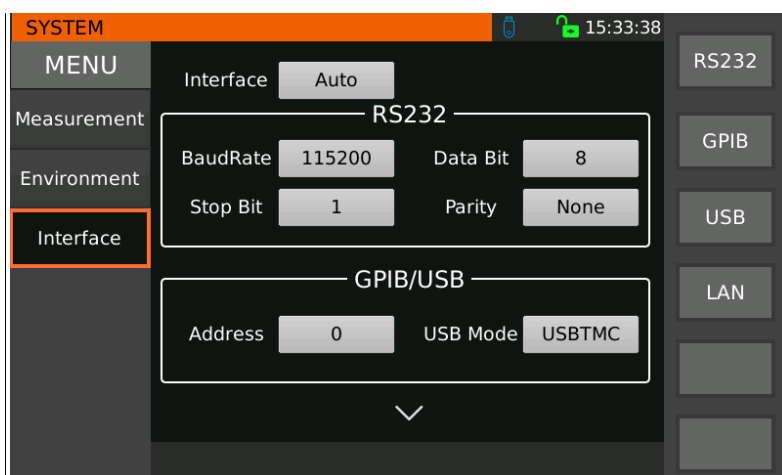
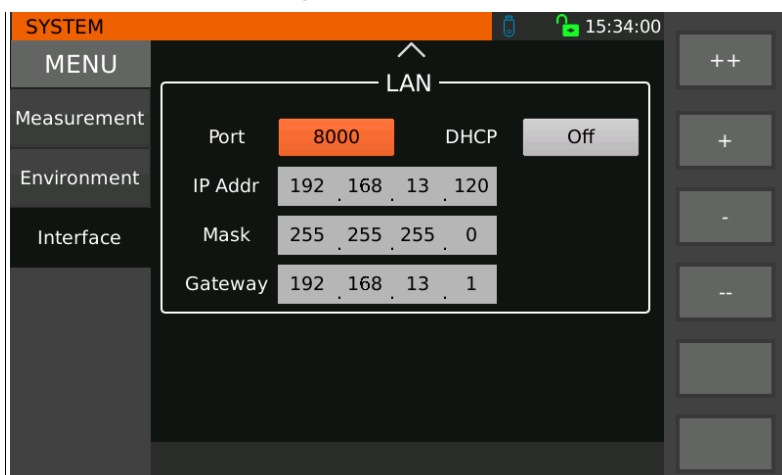

Figure 3-9 System Communication Setup 1
Figure 3-10 System Communication Setup 2
- 2、 Choose to enter the communication related system setting interface shown in Fig. 3-9 and Fig. 3-10 through **〔▲〕** , **〔▼〕** arrow keys or knob or touch the screen directly.
The system communication settings are shown in Figure 3-9 and Figure 3-10.